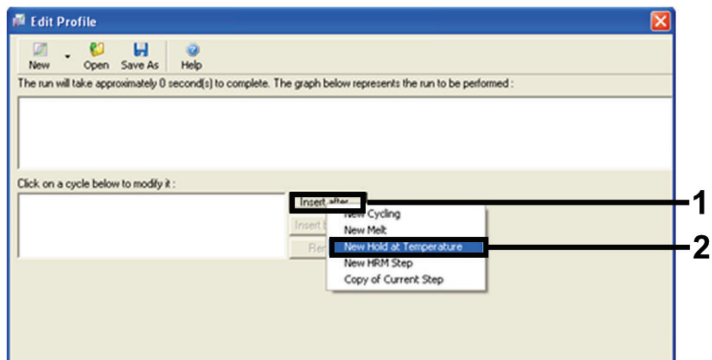

Figure 4. Inserting an initial incubation step.
6. Click **Insert after** and select **New Hold at Temperature** (Figure 4).